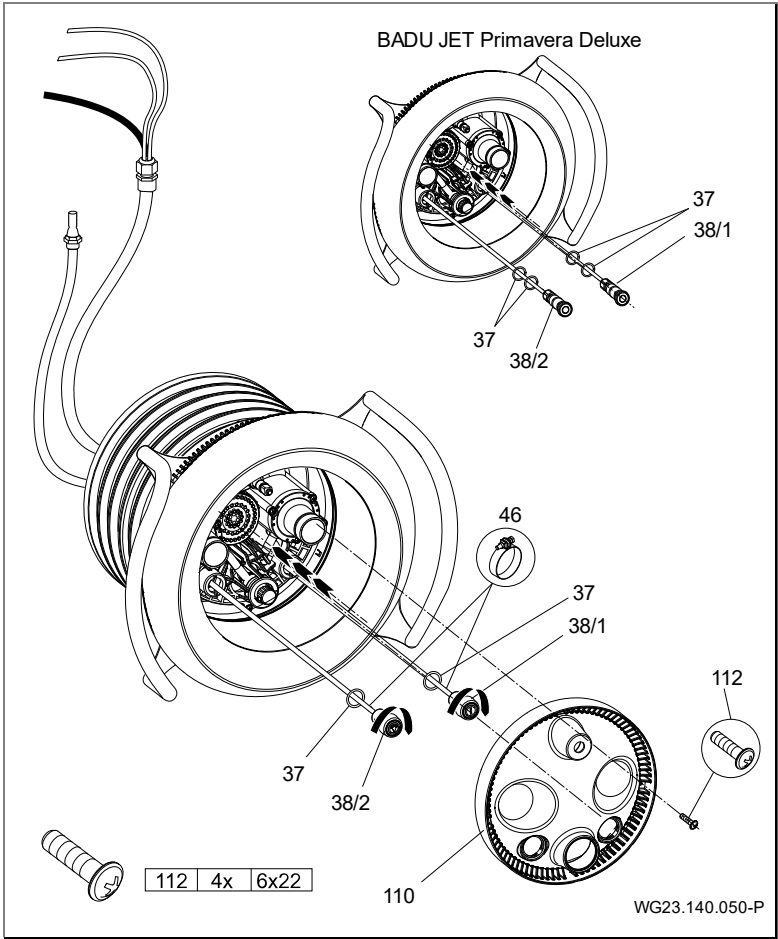

Fig. 19
8. Primavera: Push an O-ring (37) onto each pneumatic button (38/1; 38/2). Fasten the pneumatic hoses to the appropriate buttons with hose clips (46). Insert both pneumatic buttons into the nozzle housing and lock by turning clockwise. (Fig. 19)
11. Align the light cover (110) central to the nozzle housing (102.1) and fasten with four tapping screws (112). (Fig. 19)